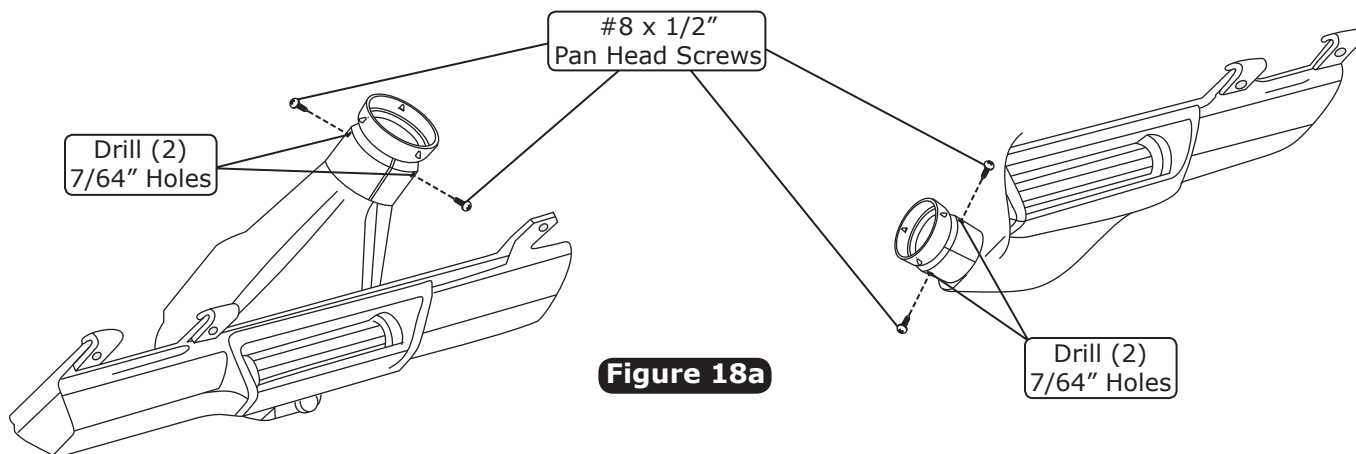

Figure 18a
2. Once the hose adapters are installed, drill (2) 7/64" holes in the OEM under dash louver assemblies as shown in Figure 18a, below.